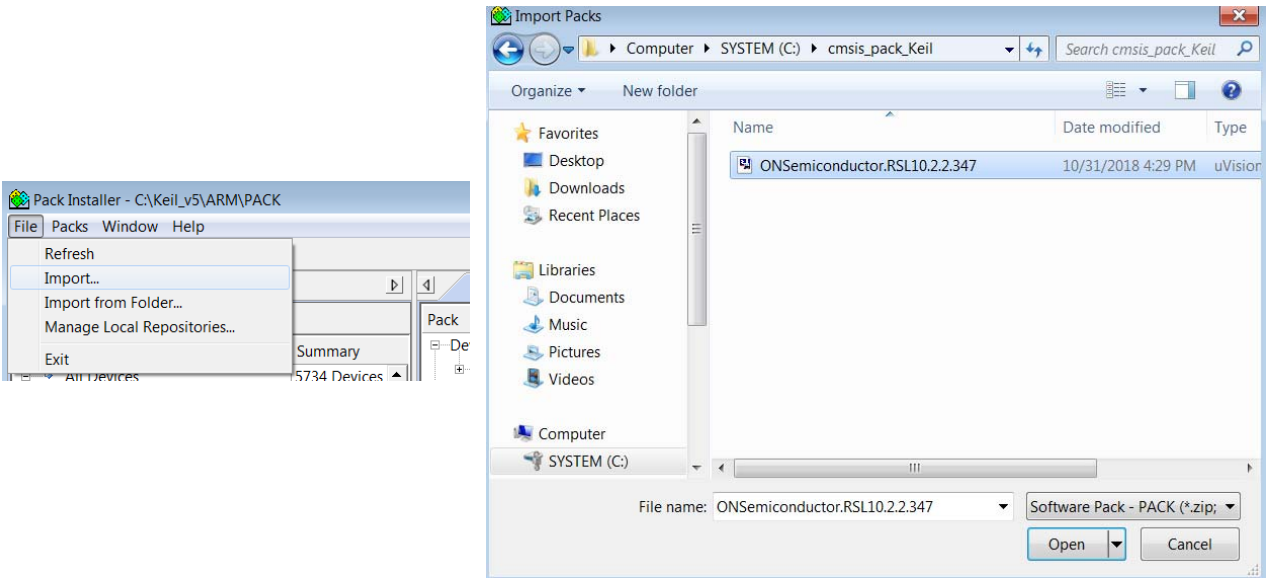

Figure 17. Installing the RSL10 CMSIS-Pack for the Keil μ Vision IDE
2. Click on **File > Import**, select your pack file *ONSemiconductor.RSL10.<version>.pack*, and click **Open** (see Figure 17). *<version>* is the RSL10 version, such as 2.2.347.